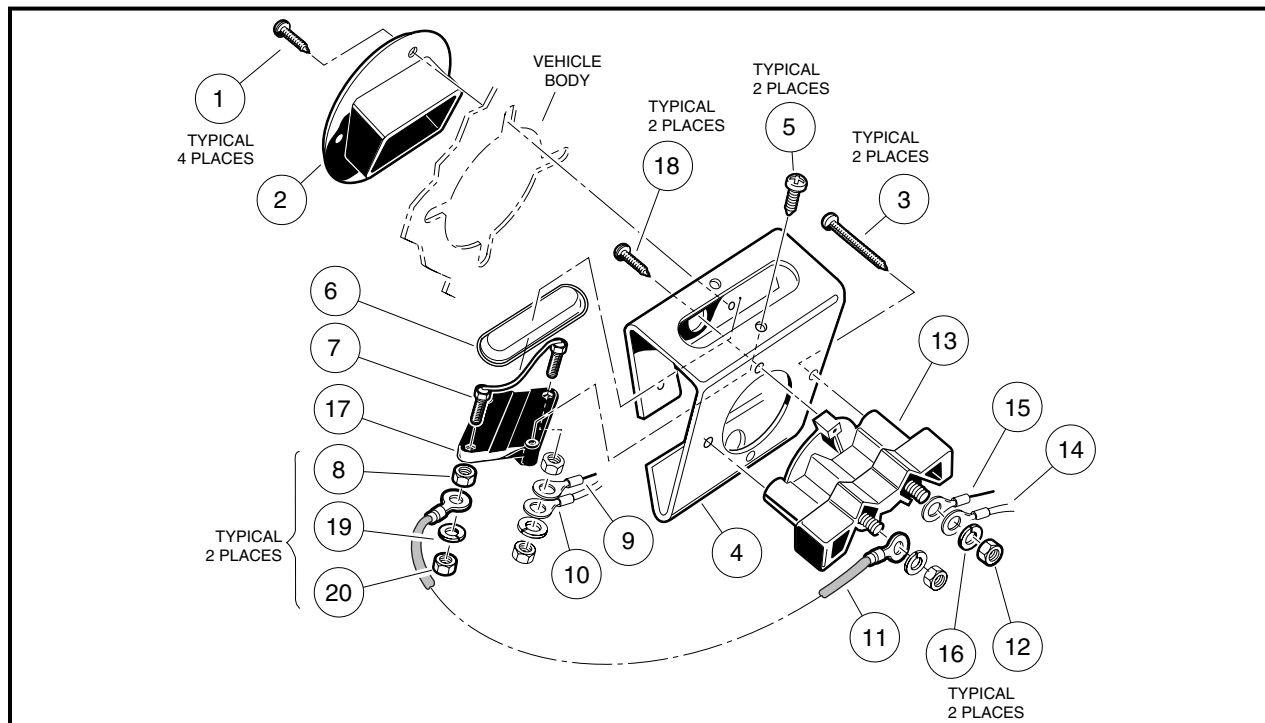

Figure 12-12 Receptacle
2. Disconnect the small black wire (15) and the white wire (14) (to the negative battery post) from the negative terminal of the receptacle (**Figure 12-12, Page 12-16**).
3. Disconnect the red wire (11) (to the fuse link) from the positive terminal of the receptacle and remove the four screws (1) from the bezel (2) (**Figure 12-12, Page 12-16**). **See following WARNING.**
1. Install the screws (3 and 18) that secure the receptacle (13) to the fuse link bracket (4) (**Figure 12-12, Page 12-16**). Tighten the screws to 20 in-lb (2.2 N·m).
4. Position bezel (2) and fuse link bracket (4) and install the four mounting screws (1) through the bezel and into the fuse link bracket. Tighten the screws to 20 in-lb (2.2 N·m).
If the receptacle fuse link has failed, the vehicle cannot be charged until the fuse has been replaced. The fuse link (7) is located on the fuse link bracket (4) in the battery compartment (rear portion of the charger receptacle) (**Figure 12-12, Page 12-16**). Refer to the appropriate battery charger maintenance and service manual. See following **WARNING**.
1. Remove the two screws (5) and then the lens (6) (**Figure 12-12, Page 12-16**).
2. Remove the outer nuts (20), lock washers (19), and wires (9, 10, and 11).
3. Remove the remaining nuts (8).
4. Remove the fuse link (7) from the base (17).
1. Install a new fuse link (7) (CCI P/N 1014516) into the base (17) (**Figure 12-12, Page 12-16**).
2. Install nuts (8) that secure fuse link to base and tighten to 18 in-lb (2.0 N·m).
3. Connect the red wire (9) (from the forward and reverse switch) and the orange wire (10) (from the reverse buzzer) to the passenger side of the fuse assembly and install the lock washer (19) and outer nut (20). Tighten the nut to 23 in-lb (2.5 N·m) (**Figure 12-12, Page 12-16**). Refer to the appropriate battery charger maintenance and service manual.
4. Connect the red wire (11) (from the charger receptacle) to the driver side of the fuse assembly and install the lock washer (19) and nut (20). Tighten the nut to 23 in-lb (2.5 N·m).
5. Install fuse link assembly and cover (6). Tighten screws (5) to 20 in-lb (2.2 N·m).